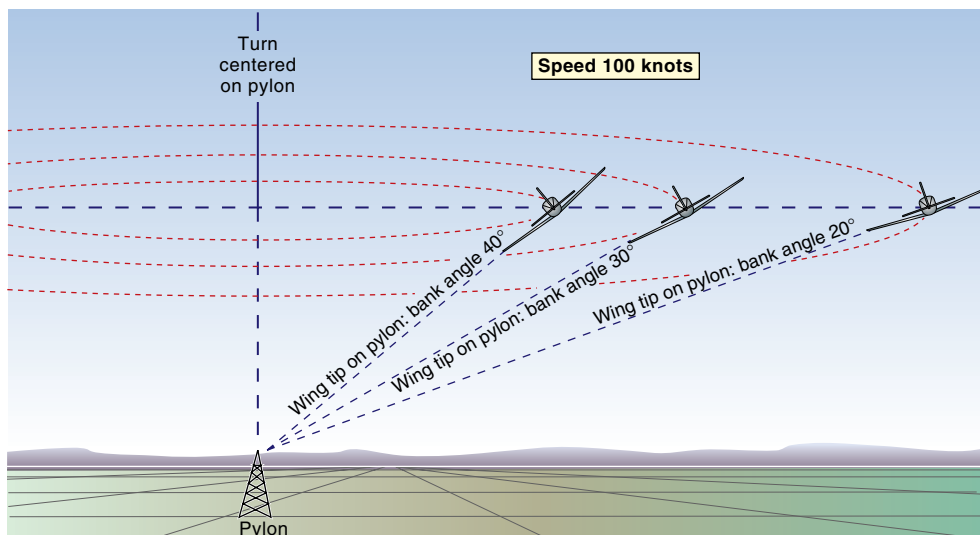

Figure 47-2 Near the pylon the bank angle has to be steeper to put the wing tip on the pylon.
- At a given speed, the radius of turn will depend upon the bank angle—the steeper the bank angle, the tighter the turn. You can see this effect in figure 47-2, where, at 100 knots, the shallower bank angle results in a wider turn and the steeper bank angle results in a tighter turn—with all of the turns being centered on a point above the pylon.